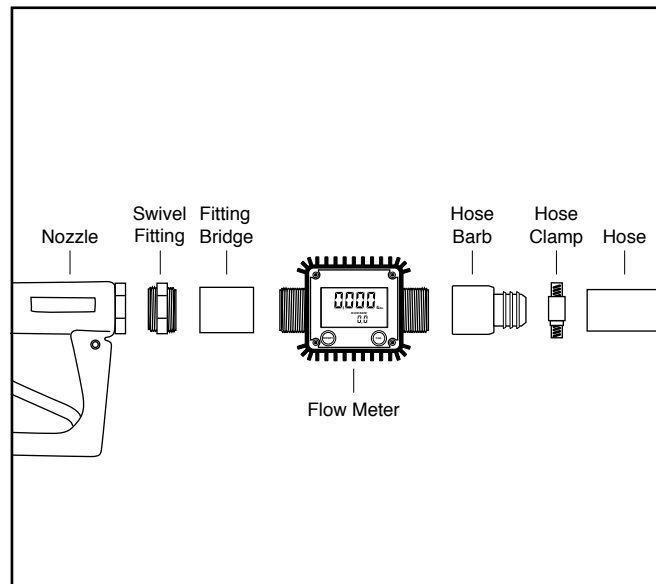

Figure 7: Flow Meter Installation
1. Tighten the fitting bridge to the swivel fitting and the swivel fitting to the nozzle. See Figure 7.